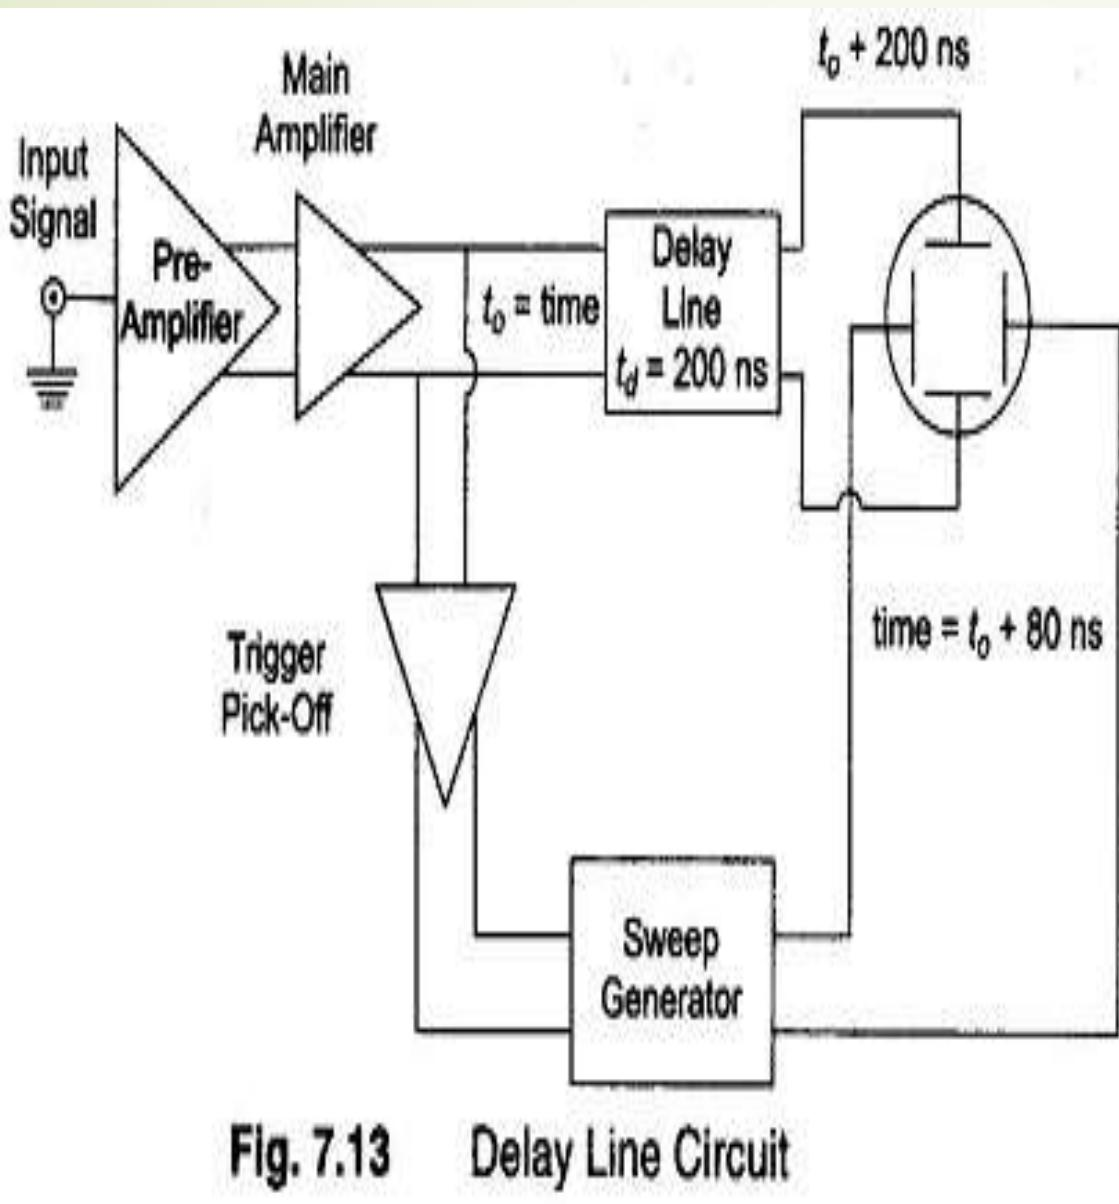
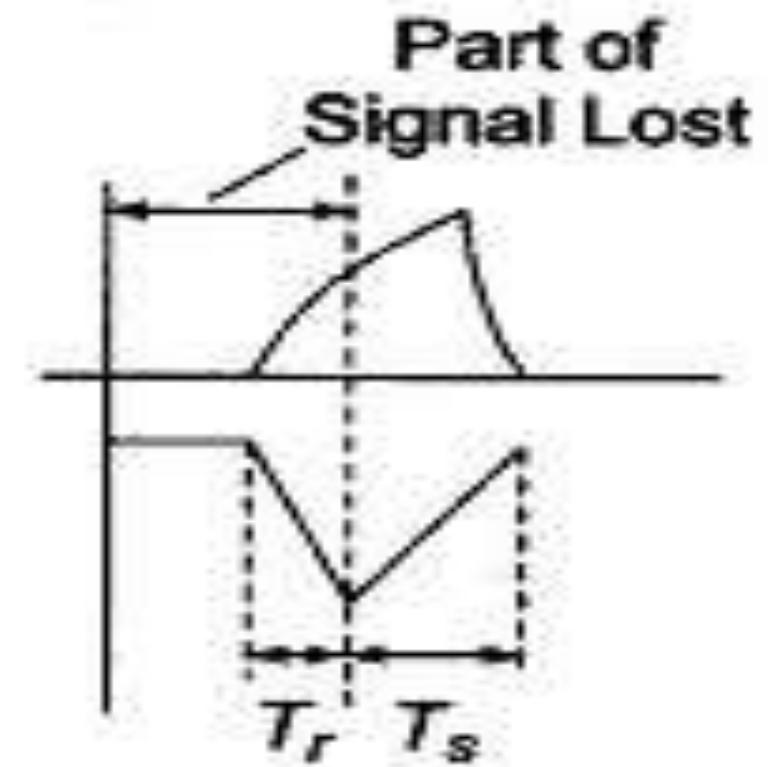

Fig. 7.13 Delay Line Circuit
Fig. 7.14 Delay Line Waveform
- ▶ Figure 7.13 shows a Delay Line in Triggered Sweep Circuit. Figure 7.14 indicates the amplitude of the signal wrt time and the relative position of the sweep generator output signal.
- ▶ To counteract this disadvantage the signal is not applied directly to the vertical plates but is passed through a delay line circuit, as shown in Fig. 7.13. This gives time for the sweep to start at the horizontal plates before the signal has reached the vertical plates.